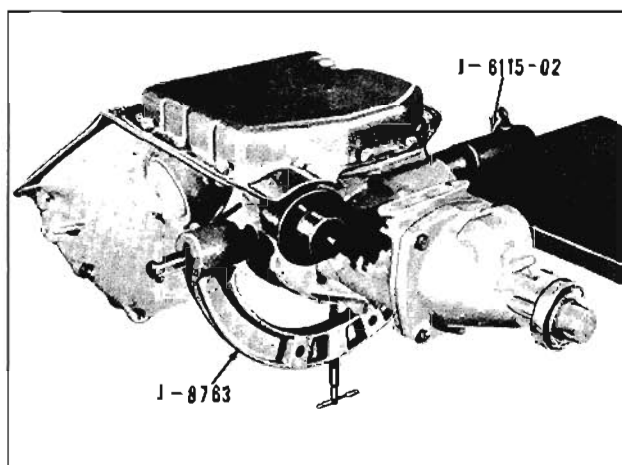

Fig. 6-252 Removing Converter
1. With transmission in horizontal position remove converter holding tool and pull converter from case. (Fig. 6-252)